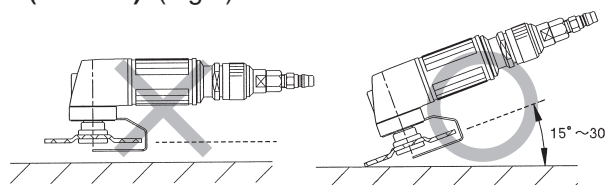

Fig.1
- **Always operate the grinder at the correct angle. (15°~30°). (Fig.1)**